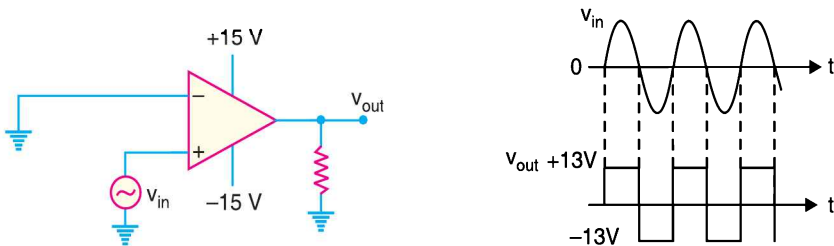

Fig. 25.95
2. As a zero-crossing detector. When one input of a comparator is connected to ground, it is known as zero-crossing detector because the output changes when the input crosses 0 V. The zero-crossing circuit is shown in Fig. 25.95. The input and output waveforms are also shown. When the input signal is positive-going, the output is driven to positive maximum value (*i.e.* $+V_{sat} = +13$ V). When the input crosses the zero axis and begins to go negative, the output is driven to negative maximum value (*i.e.* $-V_{sat} = -13$ V).